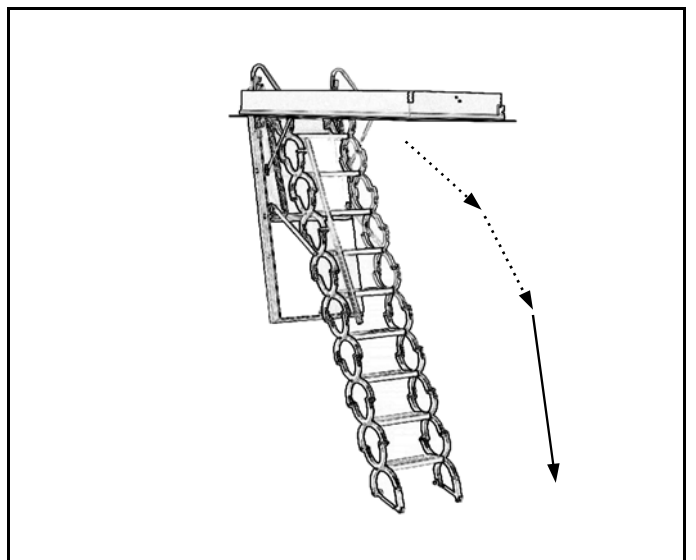

Figure 11
3. As stabilizer arm swings down, stair unit can then be pulled straight down to floor. Figure 11. Last step must make full contact with floor before ascending.